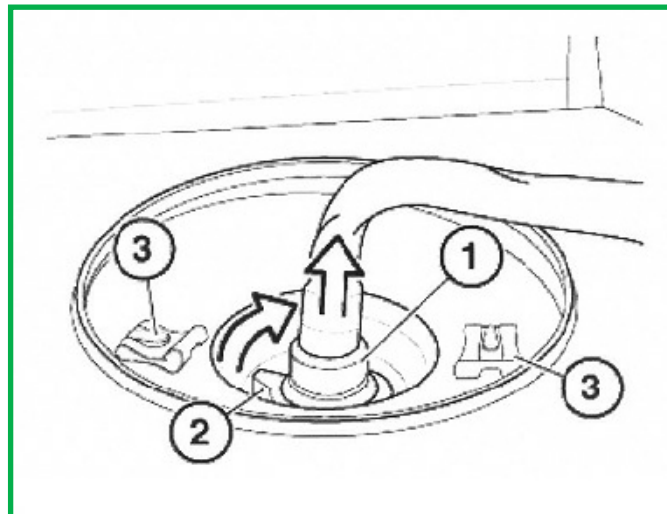

FIGURE 4
6. Disconnect the top of the air spring by pressing the quick coupling (1) downwards, pressing the retaining ring (2) together, and detaching the air line. Remove the retaining clips (3). (Figure 4)